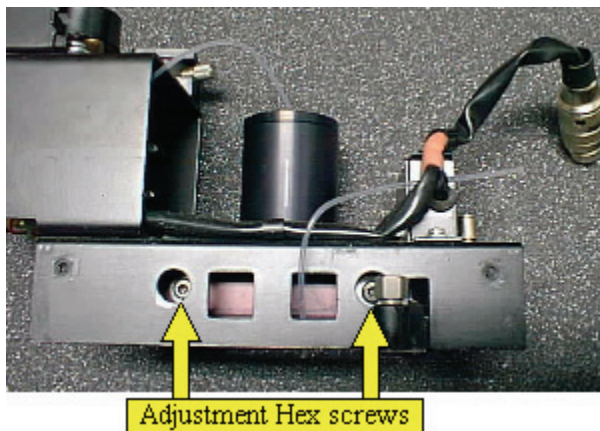

Figure 41 Adjustment screws
11. During data collection, adjust the two (1/8") Hex screws shown in Figure 41 until the maximum signal is observed.